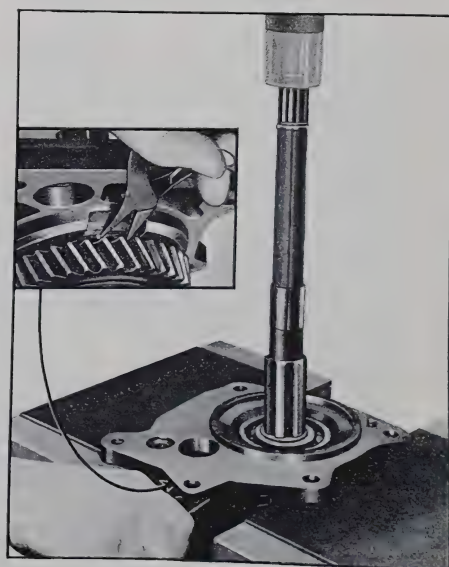

Figure 4-129—Removing Rear Bearing Retainer
19. Spread rear bearing retainer snap ring and press mainshaft out of retainer. See Figure 4-129.
20. Remove the mainshaft rear snap ring. Support first and second speed clutch assembly as shown in Figure 4-129, and press on rear of mainshaft to remove shaft from rear bearing, first speed gear, and synchromesh ring first and second speed clutch sliding sleeve and first speed gear bushing.